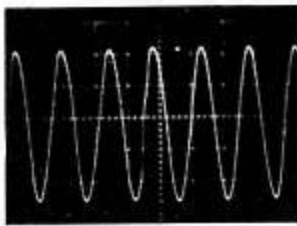

Fig 3.
- Fig 3. TID. -20dB on full power. No significant disturbance.